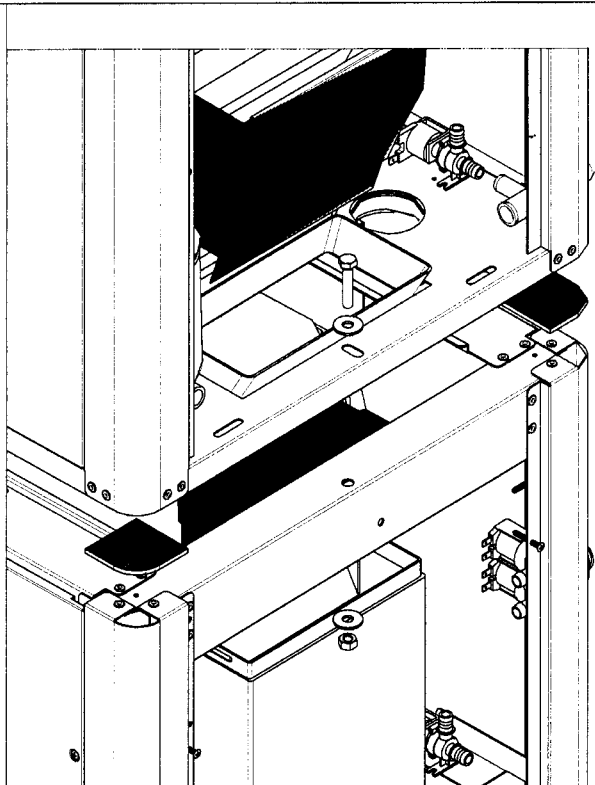

Fig.2
**FAN MOTOR/S** (in air cooled version) controlled by the condensing temperature sensor located within the condenser fins (Fig.2).